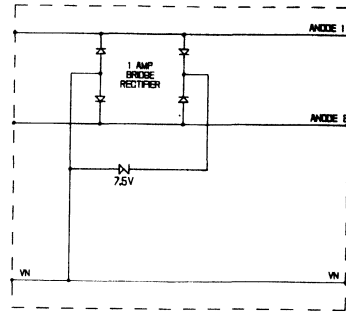

Fig.10 NO BRIGHTNESS CONTROL
- 1. No brightness control Fig.10